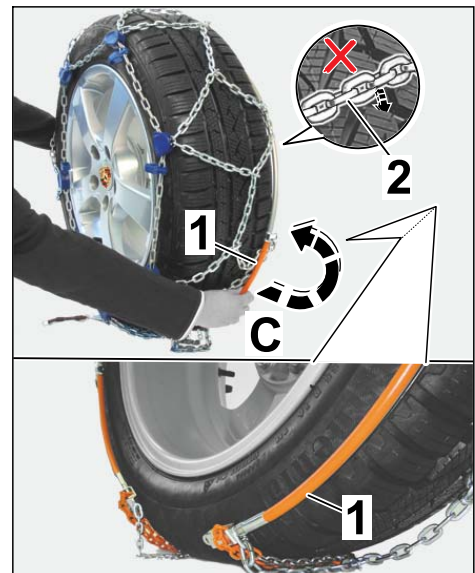

Figure 6
- 2.1.4 Guide the ends of the spring steel clip at the bottom of the wheel behind the wheel (⇒ *Figure 6-C-*).
- 2.1.6 Arrange the chain net and make sure that no bars of the chain are caught in the tread (⇒ *Figure 6-inset-*).